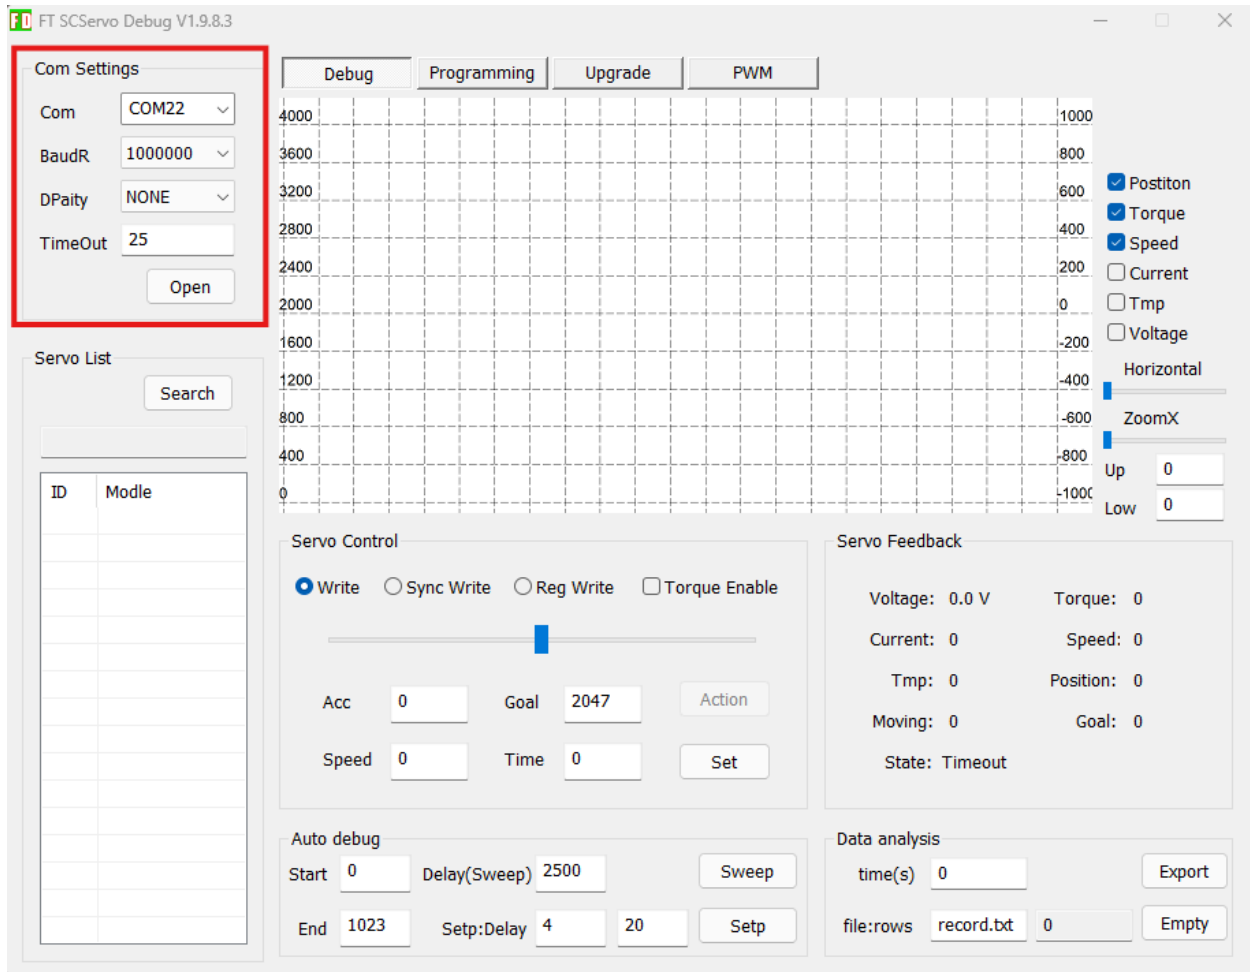

Figure 2.1 - Select COM Settings
4. Prepare the FD Software by defining the COM Settings as shown in Figure 2.1. Ensure there are 2 COM ports listed in the COM dropdown menu, one for each of the motor driver boards. Select either of these ports. Set the Baud Rate to 1000000. Open the COM port by selecting "Open" at the bottom of the COM settings.